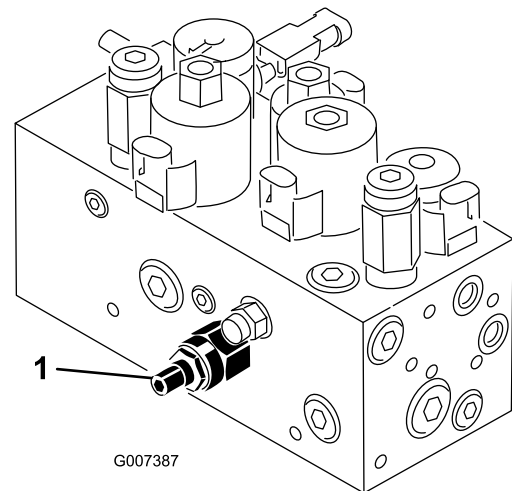

Figure 49
The cutting unit lift/drop circuit is equipped with a flow control valve (Figure 49). This valve is preset at the factory but an adjustment may be required to compensate for differences in hydraulic oil temperatures, mowing speeds, attachments, etc. If an adjustment is required, proceed as follows:
1. Raise the seat and locate the flow control valve for the center pull frame (Figure 49) which is located on the side of the hydraulic manifold.